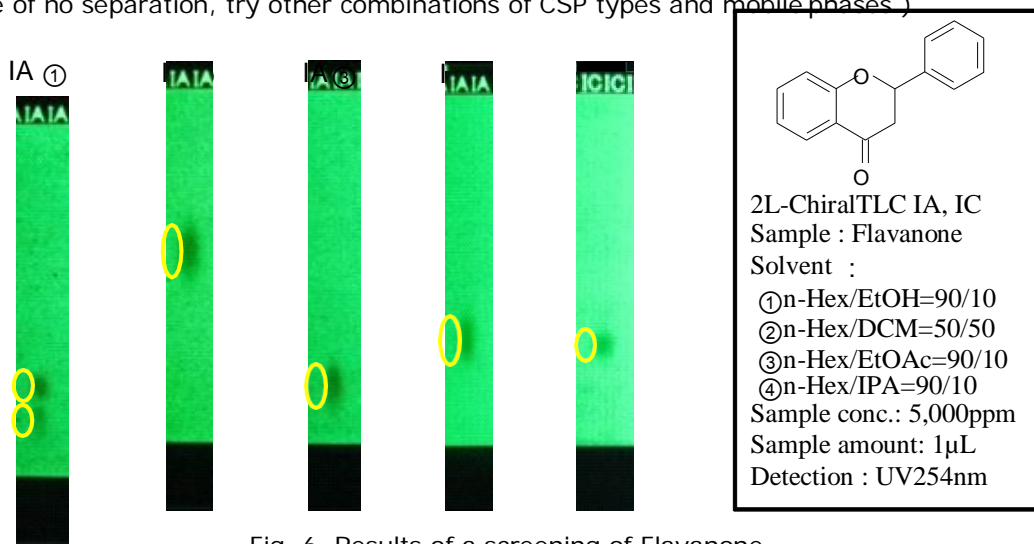

Fig. 6. Results of a screening of Flavanone.
1. Sample solutions are spotted on 2L-ChiralTLC IA, IC and developed with several solvents. (Fig. 6) (In case of no separation, try other combinations of CSP types and mobile phases.)